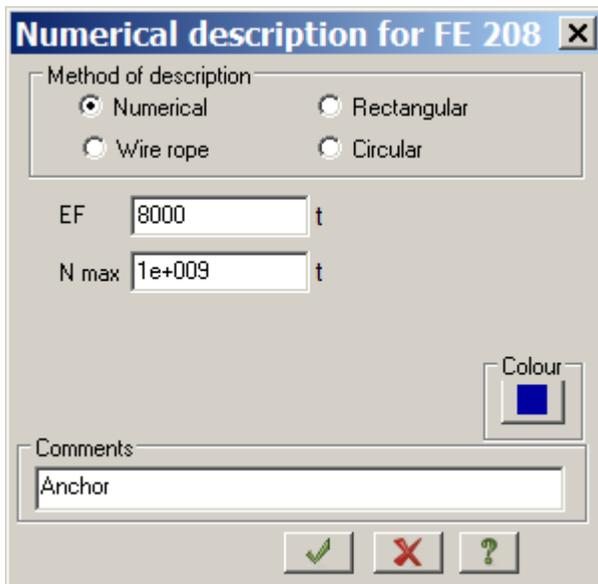

Figure 10.12 Numerical description for FE 208 dialog box
- ⇒ In the **Numerical description for FE 208** dialog box (see Figure 10.12), under **Method of description**, click **Numerical** and specify parameters of anchors: